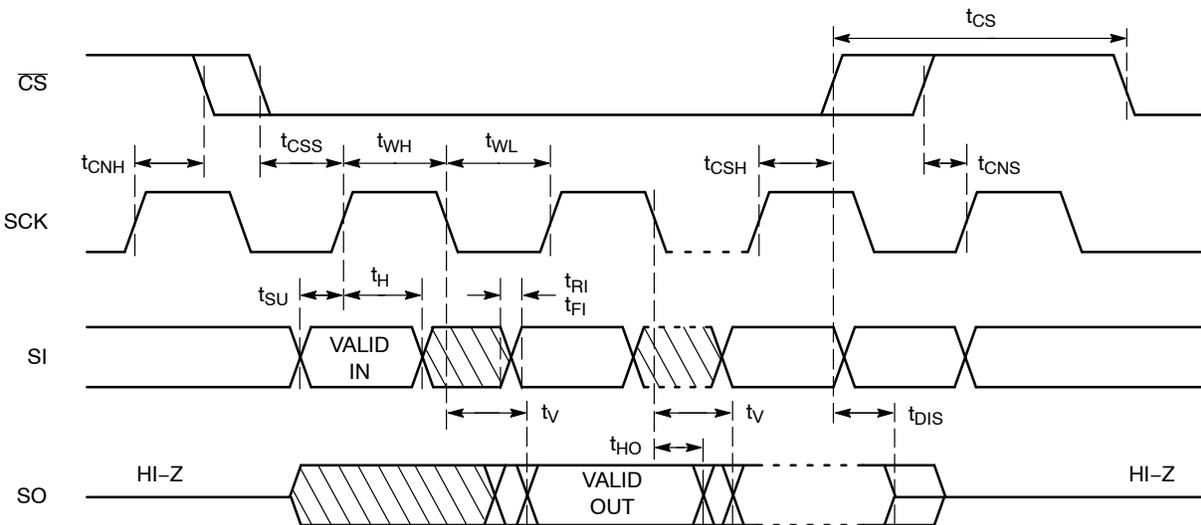

Figure 2. Synchronous Data Timing
9. **All Chip Select (CS) timing parameters are defined relative to the positive clock edge (Figure 2). t_{CSH} timing specification is valid for die revision D and higher. The die revision D is identified by letter "D" or a dedicated marking code on top of the package. For previous product revision (Rev.C) the t_{CSH} is defined relative to the negative clock edge.**
After a high to low transition on the \overline{CS} input pin, the CAT25128 will accept any one of the six instruction op-codes listed in Table 10 and will ignore all other possible 8-bit combinations. The communication protocol follows the timing from Figure 2.